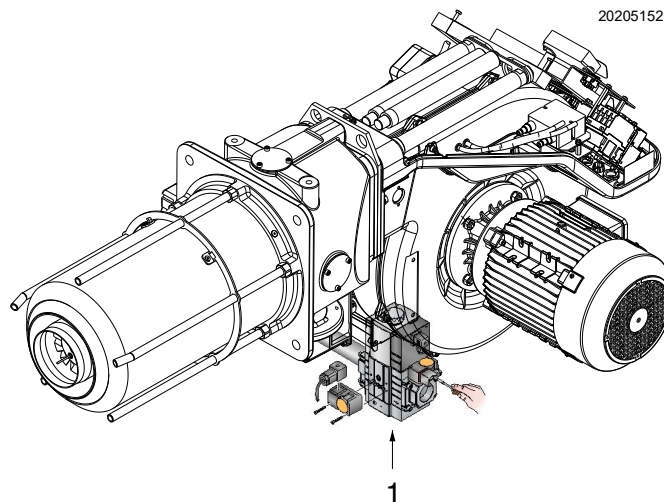

Fig. 33
- Check the gas supply pressure by connecting a pressure gauge to the pressure test point 1)(Fig. 33) of the minimum gas pressure switch: it must be lower than the maximum allowed pressure of the gas train, as shown on the characteristics label.
As an indicative guide it can be taken from Fig. 26, Fig. 27, Fig. 28 e Fig. 29 on page 29, just read the gas pressure on the pressure gauge (shown in Fig. 33 on page 33) and follow the instructions given on page 27.